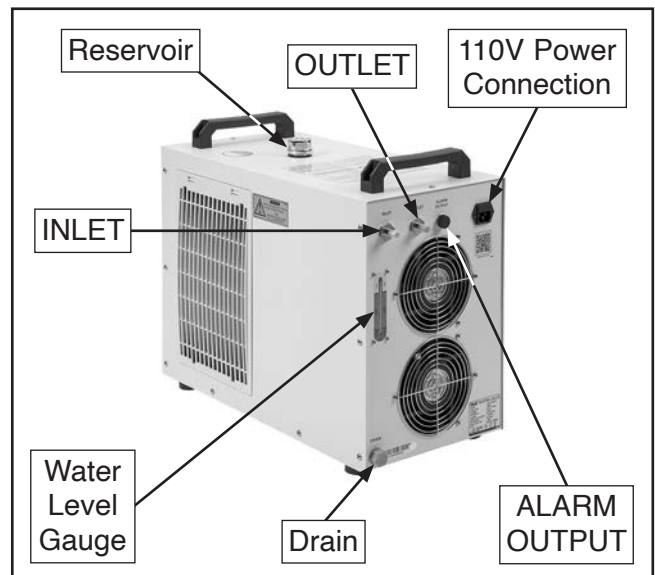

Figure 16. Water chiller connections.
2. Install water tubing onto water chiller INLET and OUTLET fittings, then connect signal cord to ALARM OUTPUT receptacle (see **Figure 16**).